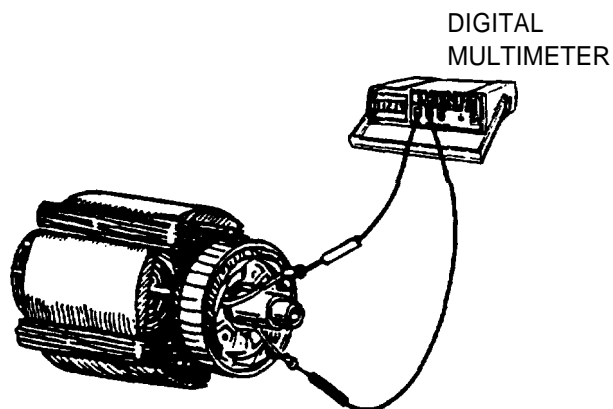

Figure 4-20. Testing Rotor for an Open or Shorted Windings.
- f. Connect multimeter between F1 + and F2- leads (Figure 4-20). Resistance reading should be as shown in Table 4-1.